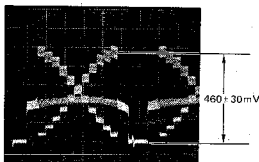

Fig. 5-9
- Adjust data by **ARROW** keys so that signal level becomes 460 ± 30 mV as shown in Fig. 5-9.